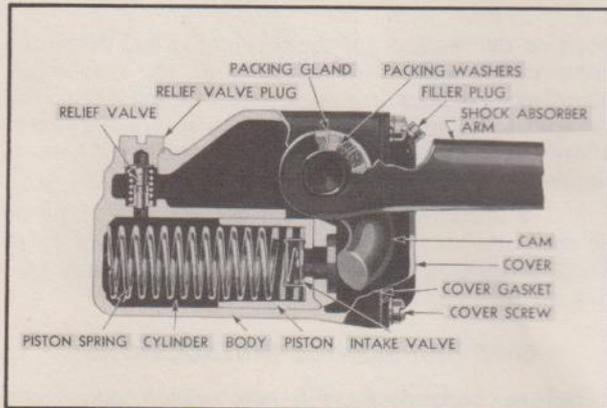

Fig. 4—Single-Acting Shock Absorber
3. Remove the screws which mount the regulator board, and tip the regulator board away from the door. This disengages the regulator from the cam channel, as shown in Fig. 4.
The construction of the single-acting shock absorber is shown in the cross section view, Fig. 4.
The type of single-acting shock absorber shown in Fig. 4, with a separately mounted intake valve and relief valve, is used on the front and rear of